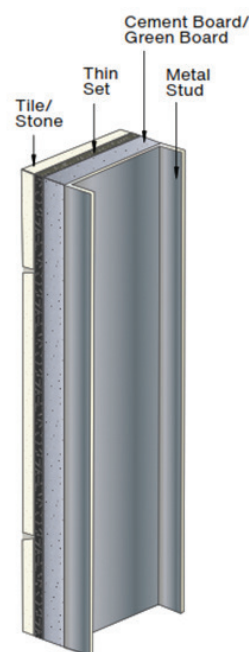

FIGURE 4 Example of adequate substrate – metal stud
3. Metal studs are often used in hospitality applications and can qualify as an adequate substrate (Figure 4). The metal stud should be directly behind the bedding material (masonry mortar/cement board/greenboard). There should not be an airspace between the bedding material and the metal stud. When fastening to a metal stud, a small pilot hole should be drilled in the metal stud, then the hinge fastening screw should be drilled through the metal stud, threading into it as it goes through.